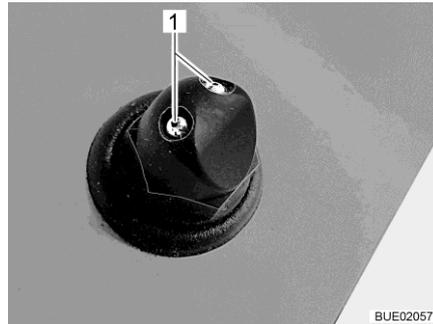

Fig. 52 Washer nozzles (variant 1)
- Use a pointed object to adjust the washer nozzles (Fig. 52,1) until the desired position has been reached.